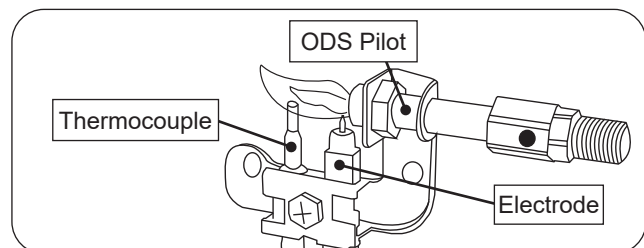

Fig. 24-2 ODS Pilot assembly detail
3. Locate the pilot assembly on the burner system (see Fig. 24-2).